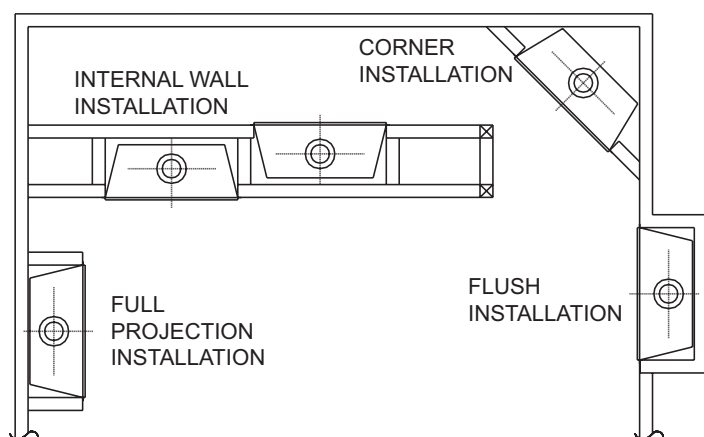

Figure 2 - Possible Locations for Installing Appliance
3. A location that avoids the cutting of joists or roof rafters will make installation easier. Figure 2 shows a plan view of a few common locations.